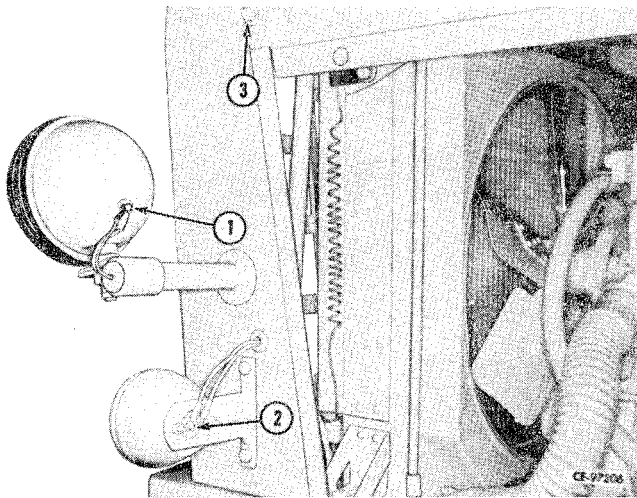

Figure 2-16
Disconnect and tag electrical wires (1, 2, Fig. 2-16) from rear driving light and tail light. Remove cap screws and nuts (3).
Install and tighten cap screws and nuts (3, Fig. 2-16) that secure the hood to the grille. Connect electrical wires (1, 2) to rear driving lights and tail light. Start the engine and check for leaks.